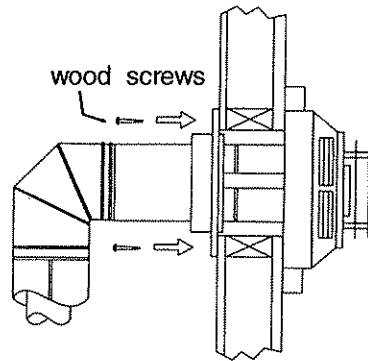

Fig. 7
- 9) Install wall penetration heat shield in the center of the 10" square and attach with wood screws (Fig 7).